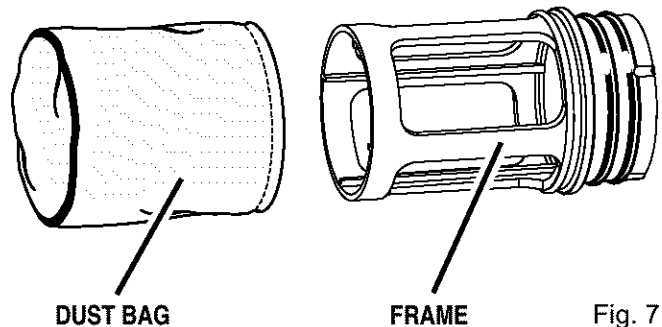

Fig. 7
- For a more thorough cleaning of the dust bag, remove dust bag from frame, as shown in figure 7, and shake out dust.